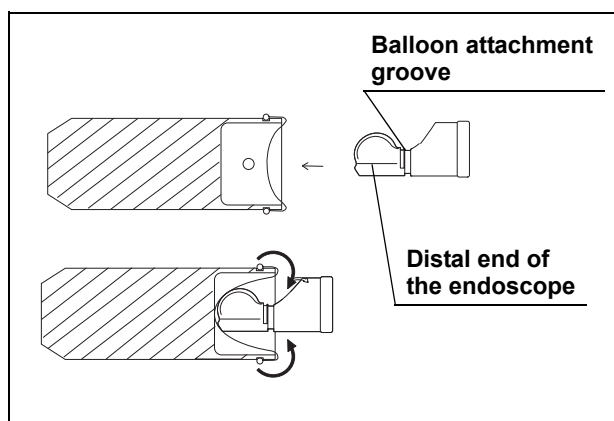

Figure 3.25
4. Remove the rear band from the balloon applicator and attach it to the endoscope's balloon attachment groove (see Figure 3.25).